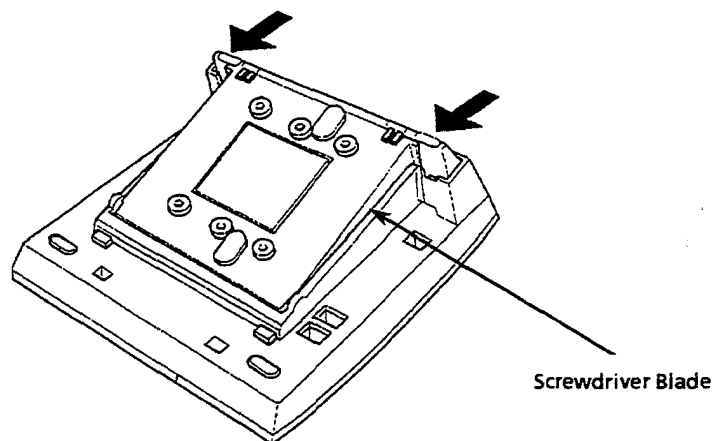

Figure 1-84 Unlatch the Cover on the Digital Multiline Terminal
3. Unlatch the cover by pressing the areas indicated by arrows in Figure 1-84. Unlatch the Cover on the Digital Multiline Terminal. Press a straight-blade screwdriver blade between the cover and the base to release the tabs. When both tabs are released, lift the cover.